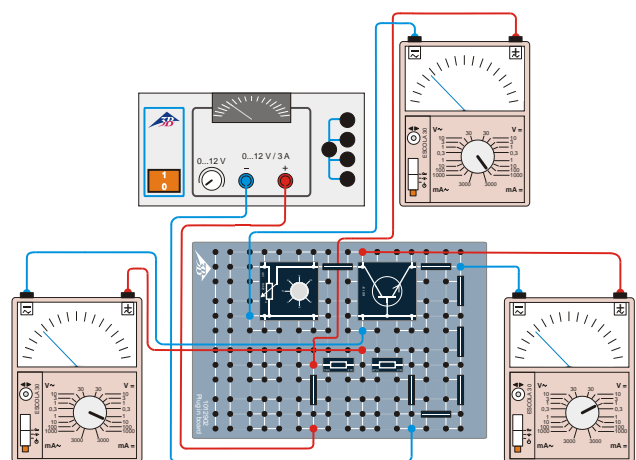

Fig. 5: Sketch of circuit for recording output characteristic.
- Set up the circuit as shown in Fig. 5. Replace the 1 kΩ potentiometer with a 47 kΩ resistor. Also insert a 220 Ω potentiometer just before the collector. The three analogue multimeters in the circuit are for the purpose of checking the base current  $I_B$  while measuring the collector-emitter voltage  $U_{CE}$  and collector current  $I_C$ .